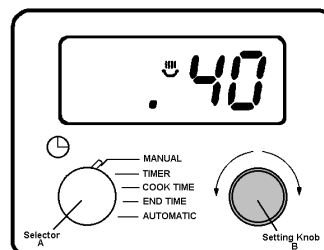

Fig.4
Using setting knob (B), turn until the required period to be timed is shown e.g. 40 mins. Fig. 4.